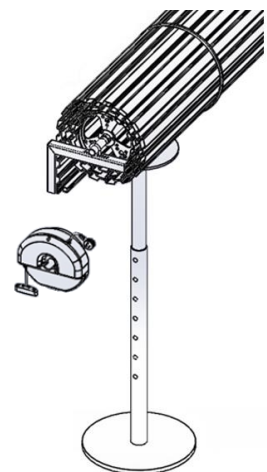

Fig 4.
6. Slide the opener onto the door axle as shown in Fig 4. Ensure the drive forks engage fully with the narrowest spoke on the drum wheel.